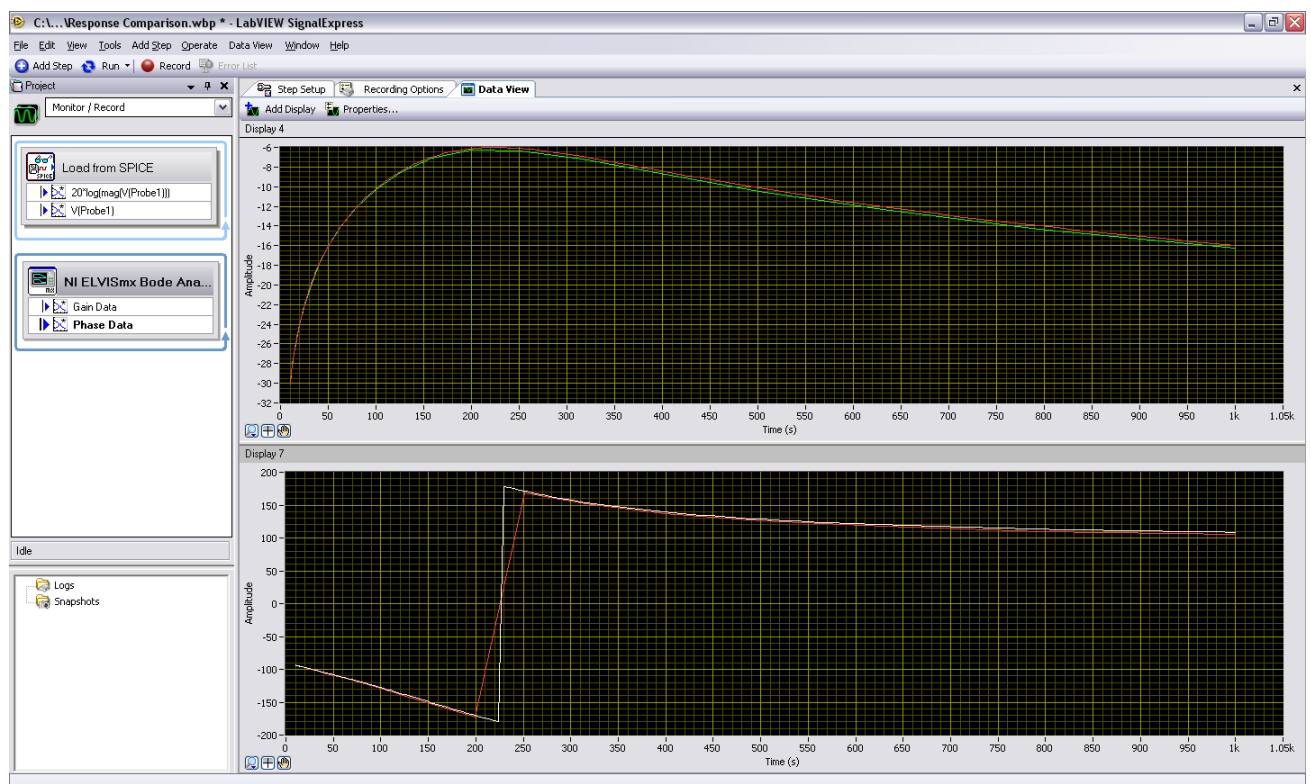

Figure E4-4. Frequency Response Verification of Real-World Circuitry
13. Click **Run Once**. LabVIEW SignalExpress then run a frequency sweep using NI ELVISmx and collects 10 points per decade. **After** the results are generated, they are displayed on the graphs, along with the simulation results. The overall result is shown in Figure E4-4. The white traces are measured data, and the red tracers are simulation results.